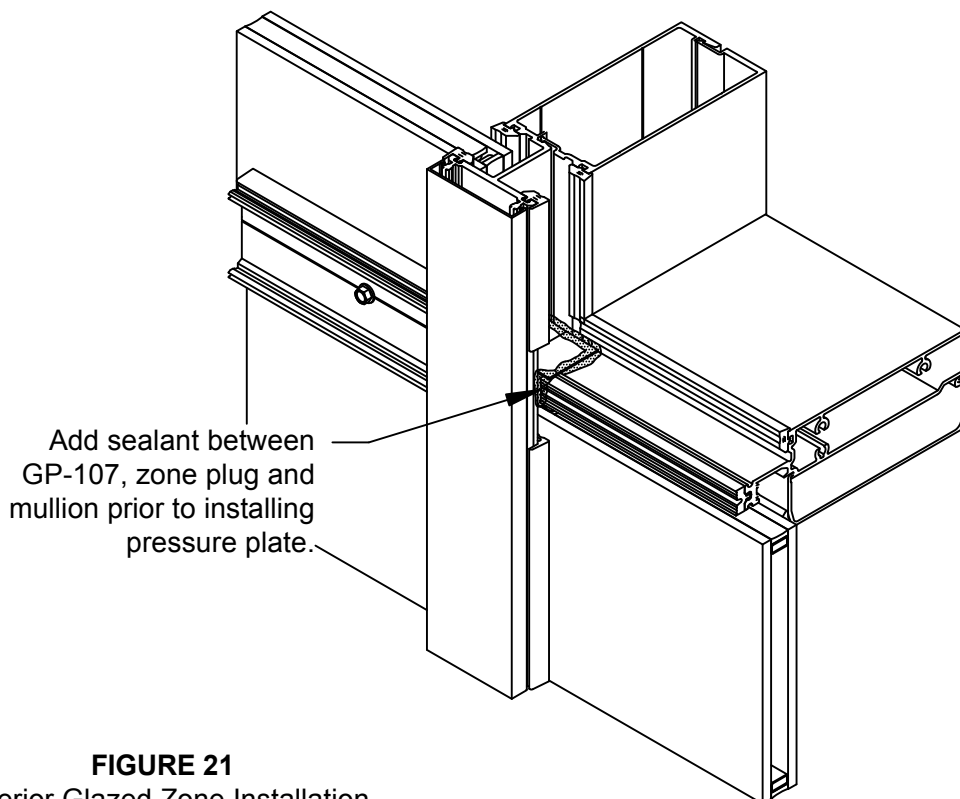

**FIGURE 20**
- 3.12 When all framing members are installed, apply perimeter seal. **SEE FIGURE 20.**